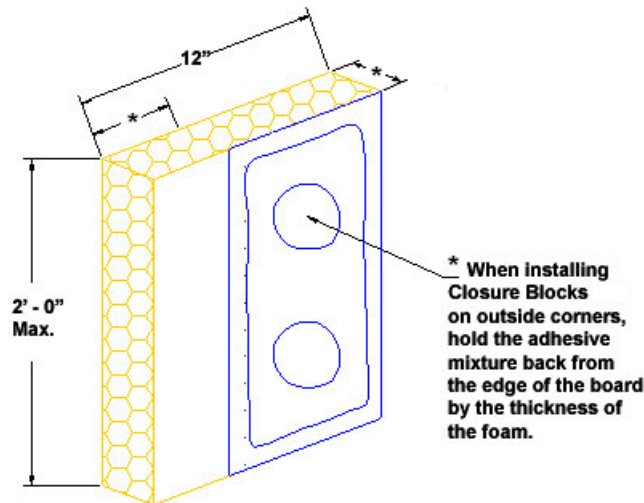

Figure 27
- b. Apply the adhesive mixture to the back side of the Closure Block using a ribbon and dab pattern. When installing Closure Blocks on outside corners, hold the adhesive mixture back from the edge of the board by the thickness of the foam and position on the wall as shown in Figure 27.